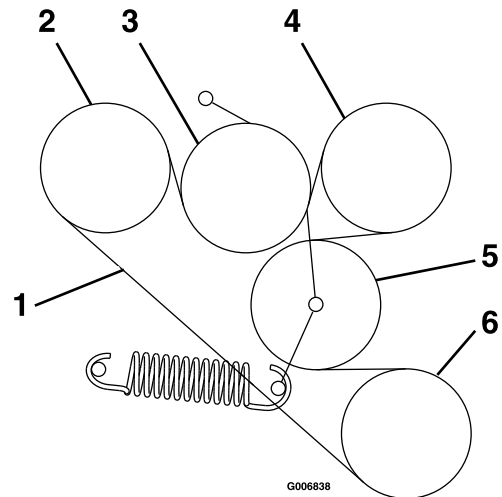

Figure 57
6. Route the new belt onto the sheaves as shown in the decal located on the back of the left drive shield (Figure 57).